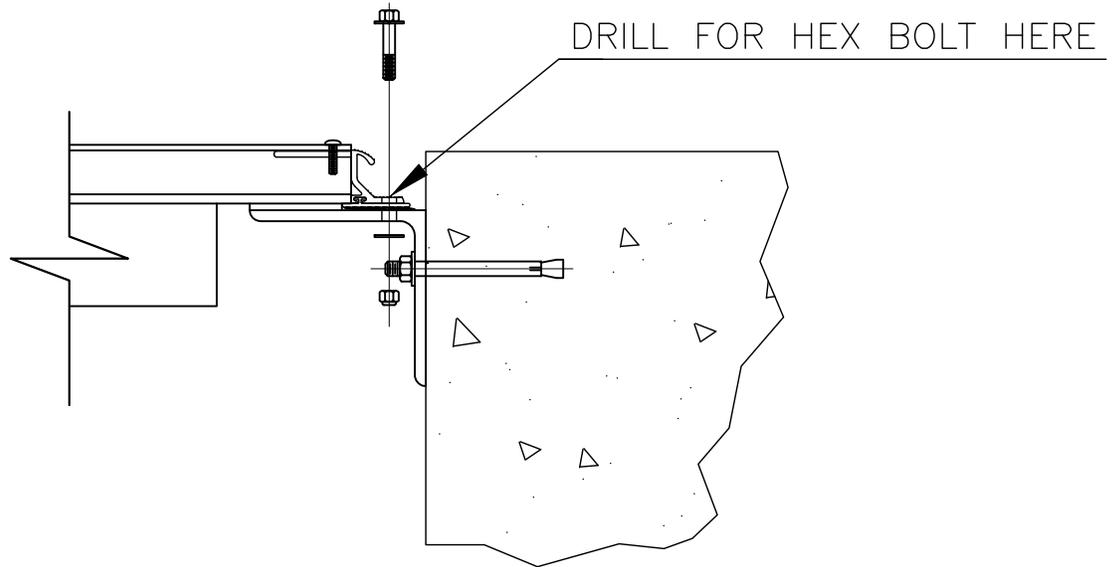

FIGURE 1
6. Drill bolt holes for beams into ledger angle. Figure 1